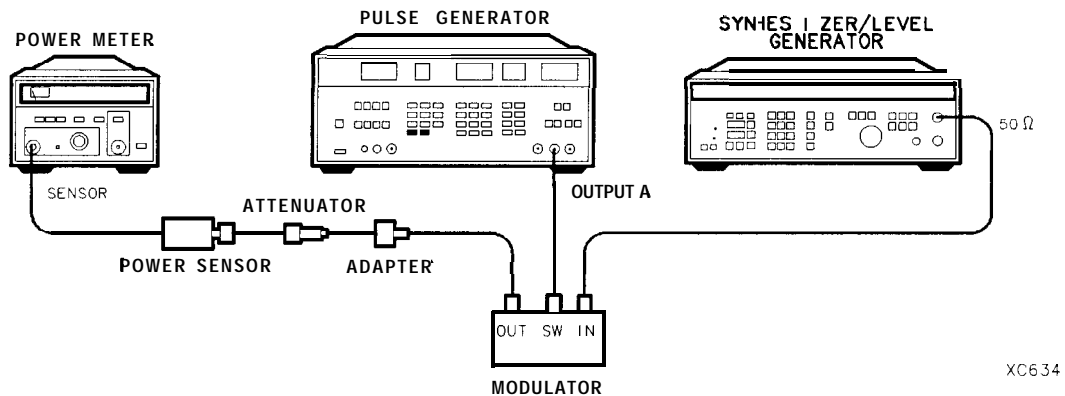

Figure 2-101. Input Amplitude Calibration **Test Setup**
2. Connect the equipment as shown in Figure 2-101.